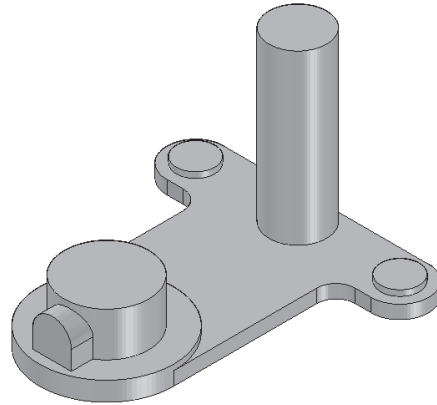

Figure 7-77 Model after adding the remaining protrusion features
- Add the remaining protrusion features to the base feature, refer to Figure 7-77.
- Add the remaining protrusion features to the model, as shown in Figure 7-77.